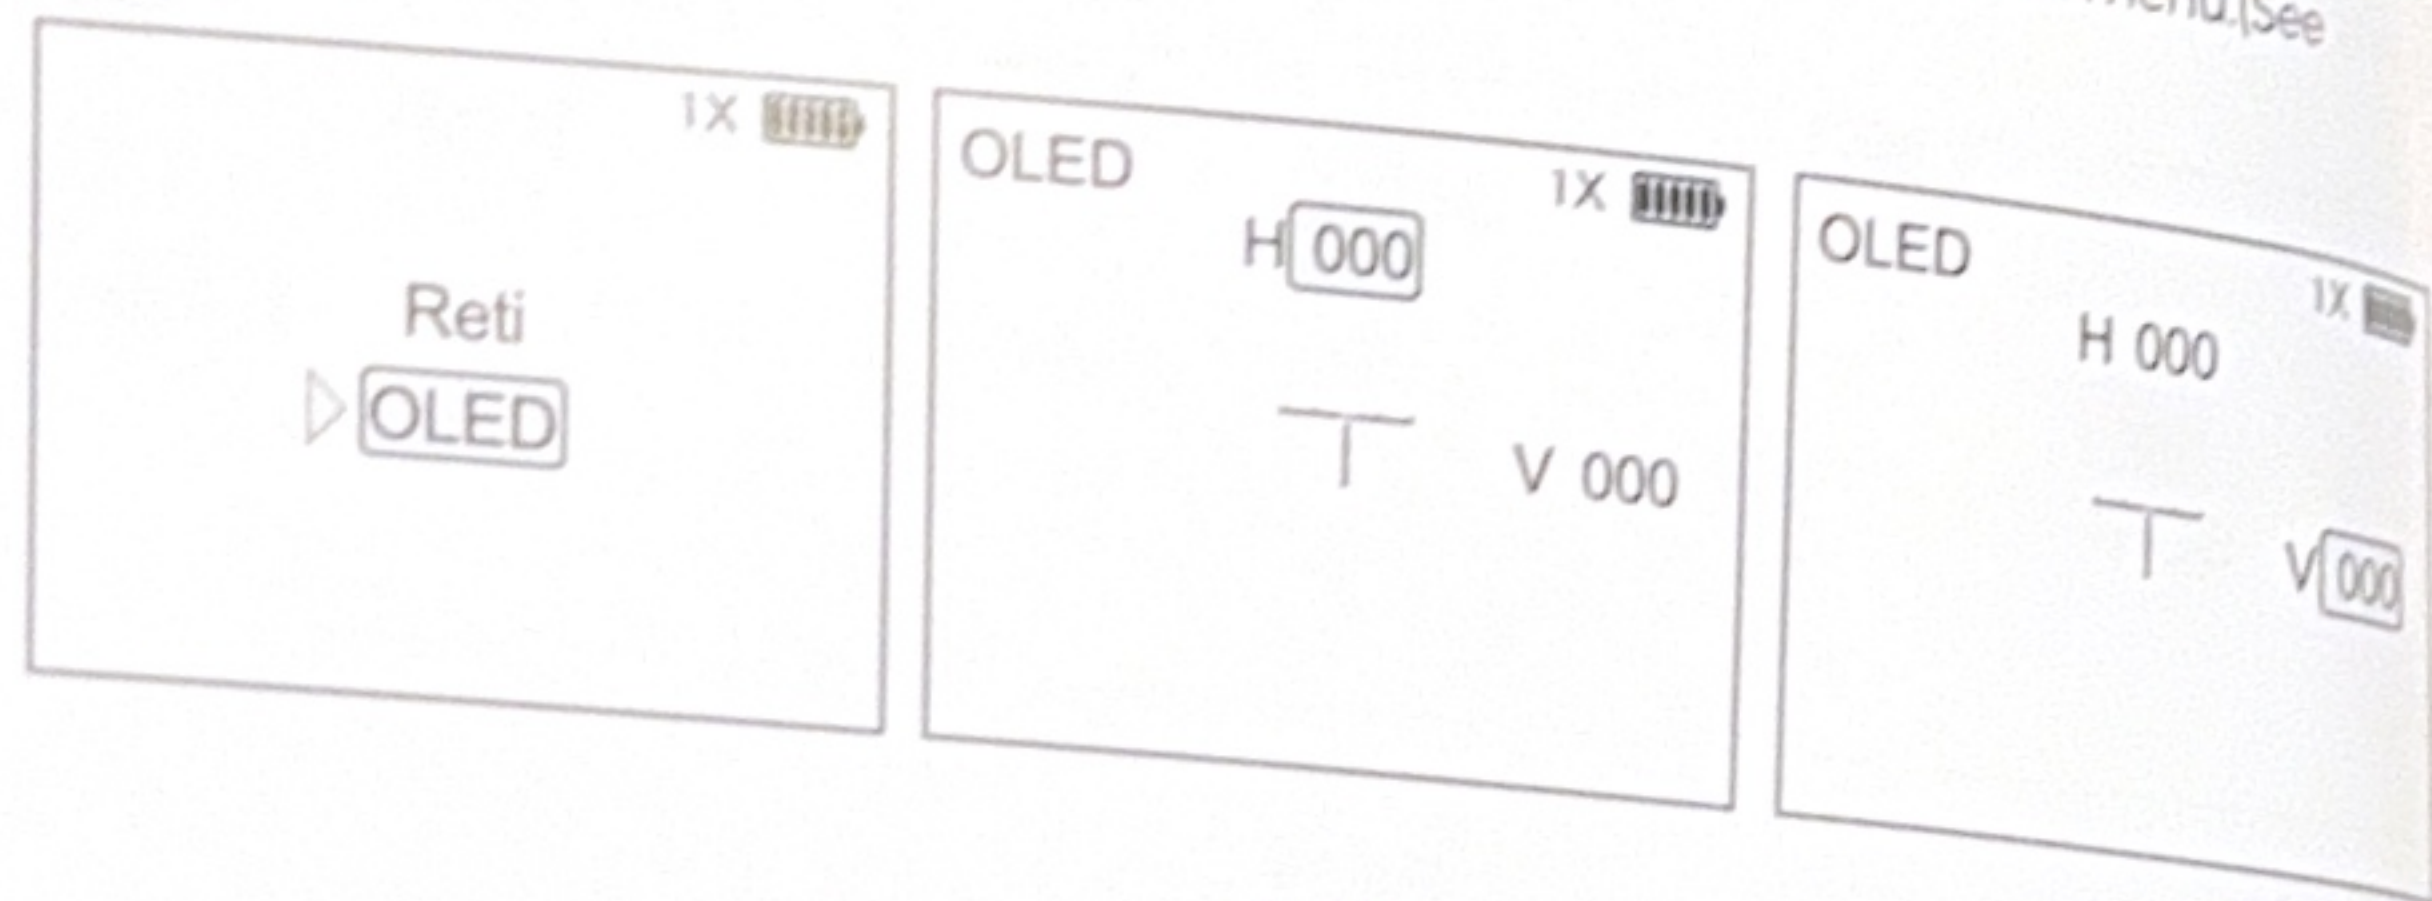

Fig 15
b. OLED Display Calibration: From the CAL menu, press the  $\nabla$  button to select OLED, click the  $\text{OK}$  button to enter the OLED settings interface. Press  $\text{OK}$  button to select between the X and Y axis. Press the  $\Delta$  and  $\nabla$  buttons to adjust the vertical (V: -50~50) and horizontal (H: -50~50) parameters to align the camera image position to match the scenery/sight picture. The reticle and display images move together during this calibration step. After this setting is completed, press and hold the  $\text{OK}$  button to return to the previous menu. (See Figure 15)